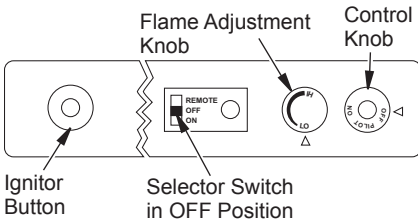

Figure 32 - Control Knob and Ignitor Button Location
- Press in and turn control knob clockwise ↻ to the OFF position (see Figure 32).
- Wait five (5) minutes to clear out any gas. Then smell for gas, including near the floor. If you smell gas, STOP! Follow "B" in the safety information, page 19. If you don't smell gas, go to the next step.
- Press in and turn control knob counterclockwise ↻ to the PILOT position. Press in control knob for five (5) seconds (see Figure 32).